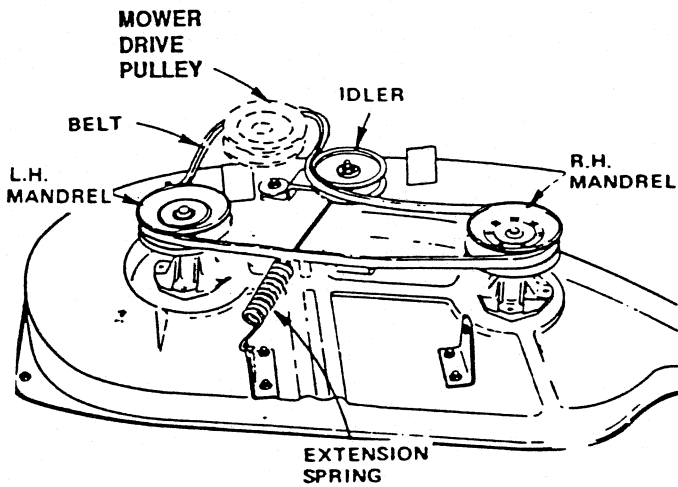

FIGURE 32
3. Roll belt off L.H. mandrel pulley (Fig. 32).
4. Pull belt off R.H. mandrel, idler and mower drive pulley (Fig. 32).